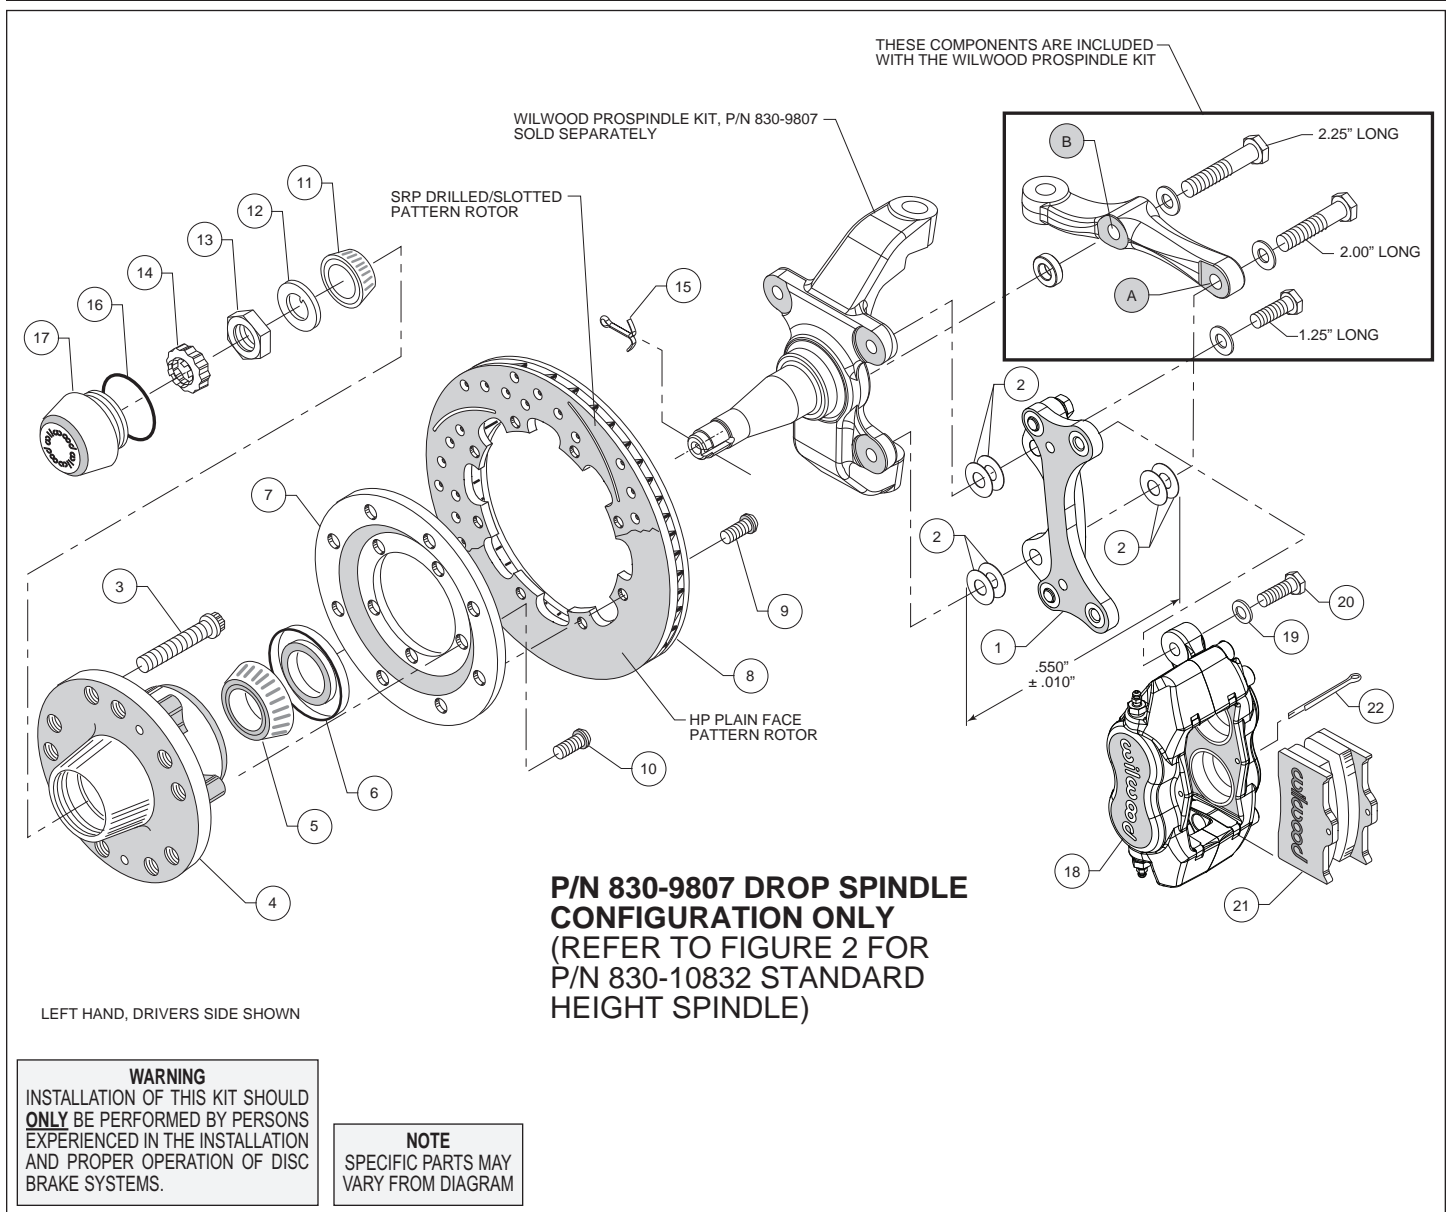
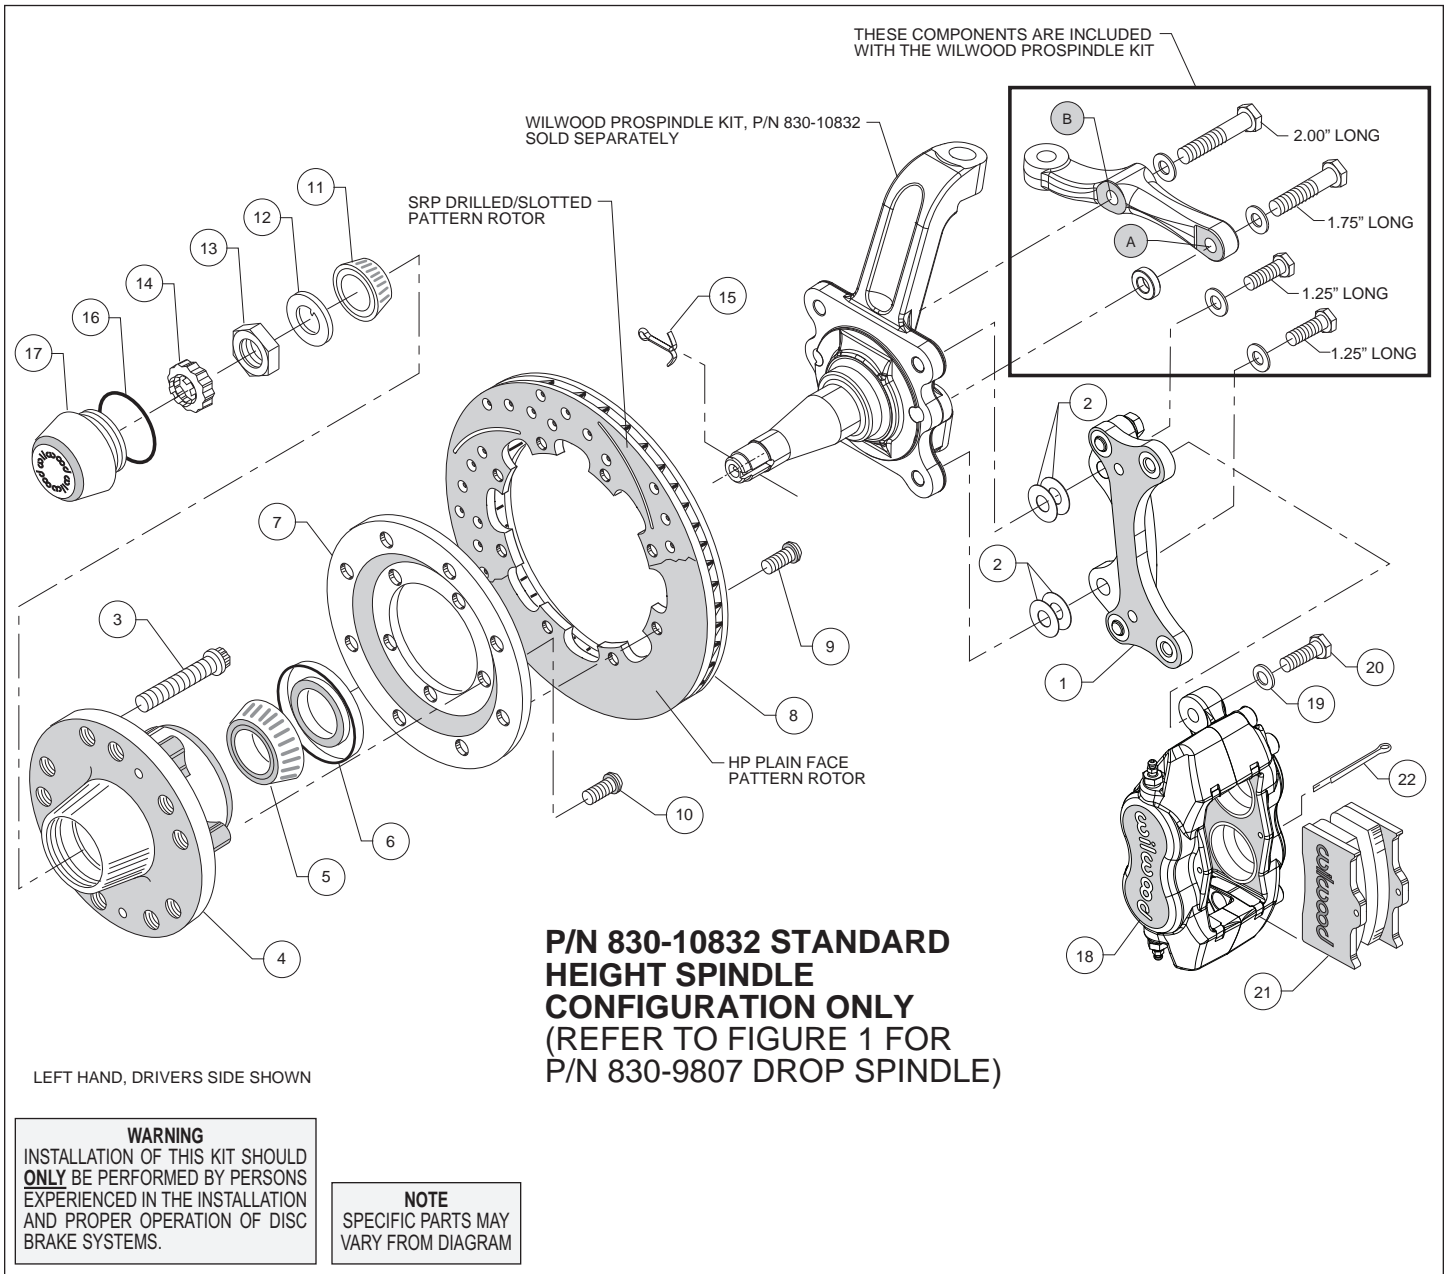

Figure 1. Installation Configuration For Drop Spindle, P/N 830-9807
Figure 2. Installation Configuration For Standard Height Spindle, P/N 830-10832
Assembly Instructions (numbers in parenthesis refer to the parts list and Figures 1 and 2 on the preceding pages):
•**NOTE:** Each Wilwood ProSpindle kit includes bolts, washers, and a spacer to mount the steering arm and caliper bracket. The various bolts are identified by length in the following instructions and in Figures 1 and 2.
- Orient the bracket as shown in Figure 1 and Photo 1. Install at top spindle hole using 1.25" long bolt and .06" thick washer (from ProSpindle kit), and two .016" thick shims (2) between the bracket and spindle, Figure 1.
- Orient the steering arm, and identify the hole marked 'A', as shown in Figure 1. Install at bottom spindle hole using 2.00" long bolt, .06" thick washer (from ProSpindle kit), two .016" thick shims (2) between the steering arm and the bracket, and another two more .016" thick shims (2) between the bracket and spindle, Figure 1. The bracket is located between the steering arm and spindle. **NOTE:** The bracket and shim washers must add up to a total thickness of $.550" \pm .010"$, Figure 1.
- Finish attaching the steering arm through the hole marked 'B', as shown in Figure 1. Install using 2.25" long bolt, .06" thick washer, and .25" thick spacer (all from ProSpindle kit), Figure 1.
- Orient the bracket as shown in Figure 2 and Photo 2. Install using 1.25" long bolts and .06" thick washers (from ProSpindle kit), and two .016" thick shims (2) on each bolt between the bracket and spindle, Figure 2. Temporarily tighten mounting bolts. **NOTE:** *The bracket must fit squarely against the mounting points on the spindle.* Inspect for interference from casting irregularities, machining ridges, burrs, etc. Later, after the caliper alignment has been checked, the mount bolts will be secured using red *Loctite*[®] 271.
- Orient the steering arm, and identify the hole marked 'A', as shown in Figure 2. Install using 1.75" long bolt, .06" thick washer, and .30" thick spacer (all from ProSpindle kit), Figure 2.
- Finish attaching the steering arm through the hole marked 'B', as shown in Figure 2. Install using 2.00" long bolt and .06" thick washer (from ProSpindle kit), Figure 2.
- Install wheel studs (3) into the hub (4), Photo 3. Torque to 77 ft-lb. **NOTE:** *There are two lug patterns of five holes each in the hub (5 x 4.50 and 5 x 4.75).* Make sure of the correct hole pattern for the wheel application before installing the studs into the hub.
- Pack the large inner bearing cone (5) with high temperature disc brake bearing grease (available from your local auto parts store) and install into the backside of the hub (4), Photo 4.
- Install the grease seal (6) by pressing into the backside of the hub (4), flush with the end of the hub, Photo 4.
- Orient the rotor (8) and the rotor adapter (7) as shown in Figure 1 or 2 and Photo 5. Attach the rotor to the adapter using bolts (9). Using an alternating sequence, apply red *Loctite*[®] 271 to the threads, and torque to 25 ft-lb.
- Mount the adapter/rotor assembly (7 and 8) to the hub (4) using bolts (10), as shown in Figure 1 or 2 and Photo 6. Using an alternating sequence, apply red *Loctite*[®] 271 to the threads, and torque to 45 ft-lb.
- Pack the small outer bearing cone (11) with high temperature disc brake bearing grease and install into front of hub (4). Slide the hub assembly onto the spindle. Secure using spindle washer (12) and spindle nut (13), Photo 7. Bearing adjustment: Tighten the nut while turning the hub. When there is a slight bind on the bearings, they are seated correctly. Back the nut off about 1/6 to 1/4 of a turn, or sufficiently to allow .001" to .007" end play. **WARNING:** *Failure to back off adjusting nut could cause bearing to run hot and be*
- Screw dust cap (17) into hub (4), Photo 8. Friction created by the o-ring (16) on the dust cap keeps it from unscrewing.
- NOTE:** Please reference the caution statement at the beginning of the assembly instructions. Mount the caliper (18) onto the caliper mounting bracket (1) using bolts (20) and washers (19), as shown in Figure 1 or 2. Temporarily tighten the mounting bolts and view the rotor (8) through the top opening of the caliper. The rotor should be centered in the caliper, Photo 9. If not, proceed as follows: